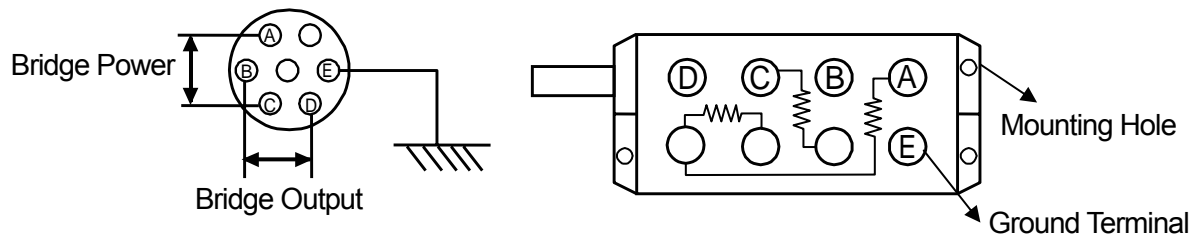

Fig.4-1 Overview of Bridge Box
(1) Installation
- b. The bridge box may be secured with screws using the screw holes shown in Fig. 4-1, as needed.
(2) Connections to bridge box (5370/5373/5379/5380)
- a. As shown in Fig. 4-1, pins A and C are provided for the bridge power supply, and pins B and D are provided for the input to the amplifier unit. Pin E is the common terminal.